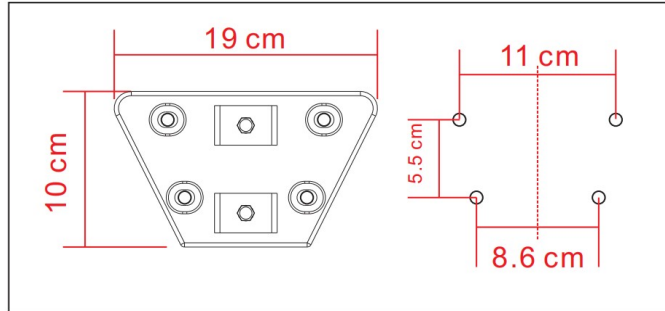

Figure 1
1. Select an appropriate location (consider Power Cord length) and fix the Base onto a strong wall with the 4 provided M10*70 Expansion Bolts, you will first need to drill holes in the wall that match the holes in the Base. If the power cord is hanging loose between the fan and the power outlet, make sure it cannot touch or obstruct fan blade rotation or fan oscillation at any time. (Figure 1)
2. Align the Rear Grille on the Motor Housing, ensure that the small hole for security screw is at the bottom. Then fix the rear grille in place using the 4 x Rear Grille Locking Screws (Figure 1).